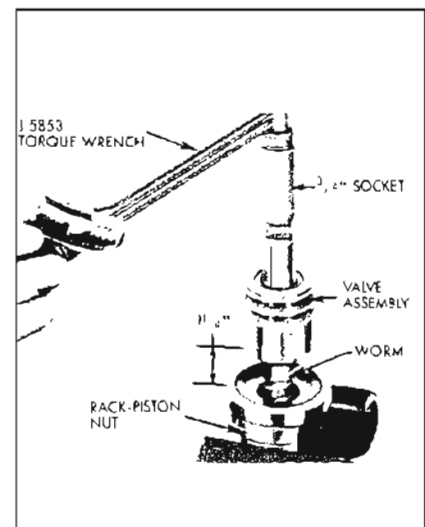

Figure 8-57—Checking Rack-Piston Nut Ball Preload
8. The worm groove is ground with a high point in the center. When the rack-piston nut passes over this high point, a preload of 1 to 5 inch pounds should be obtained. To measure the preload of the assembly, lightly clamp rack-piston nut in a soft jaw vise with worm pointing up. Do not distort rack-piston nut by tightening too heavily. Place valve assembly on worm, engaging worm drive pin. Rotate the worm until it extends 1-1/4 inches from the edge of rack-piston nut to the thrust bearing face of worm; this is the center position. Attach Torque Wrench J-5853 with 3/4 inch, 12 point socket to the stub shaft. See Figure 8-57. Rotate the wrench through a total arc of approximately 60 degrees (1/6 turn) in both directions several times and take a reading. The highest reading obtained with the worm rotating should be from 1 to 5 inch pounds. If the reading is too high, disassemble and reassemble, using the next size smaller plain balls and recheck. (A rack-piston nut with a ball size of 7 does not have a number stamped on the flat surface of the rack-piston nut.) If the reading is too small, use the next size larger plain balls and recheck. See paragraph 8-8, sub-